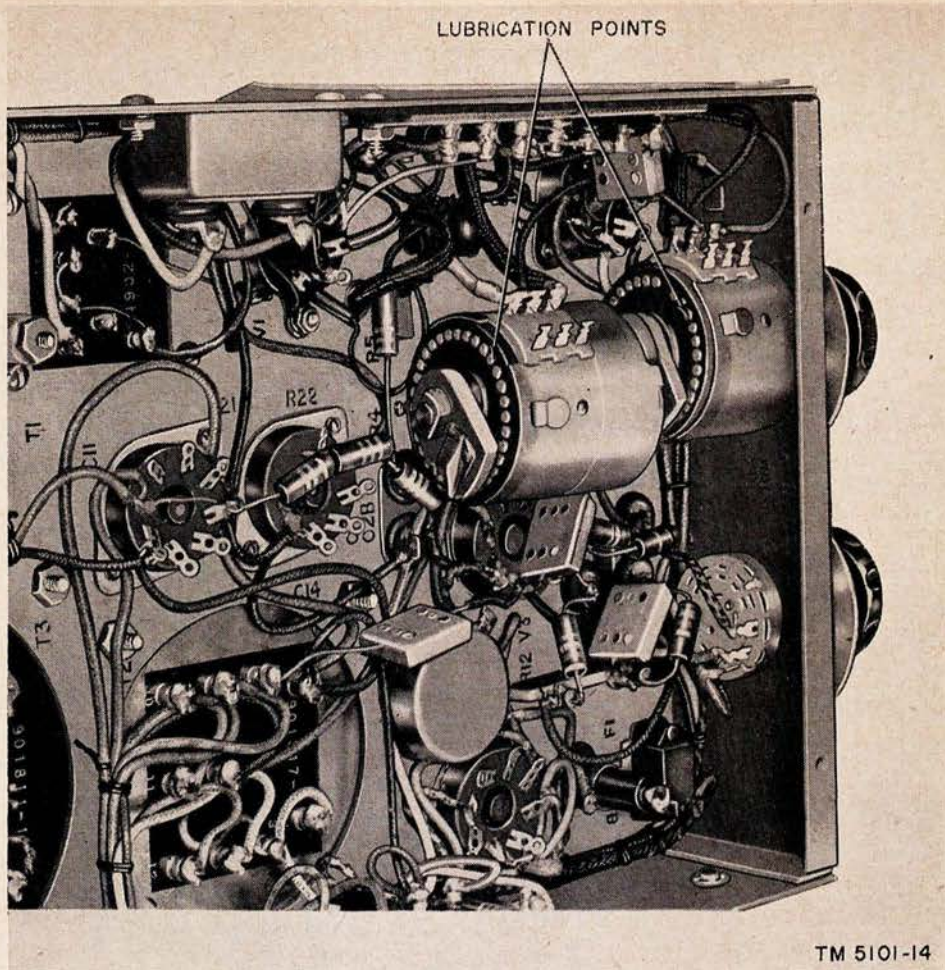

Figure 17. Lubrication points.
c. Press the catch nearest the rear end of R1 (fig. 17) turn the rear end cover sufficiently to release it, and pull the cover off R1. Clean exposed rear section contacts as instructed in *a* above with a light oil and rotate the shaft. If any dark streaks appear, wipe off the contacts with a lint-free cloth; and repeat this procedure until the contacts are clean, then apply a thin film of light